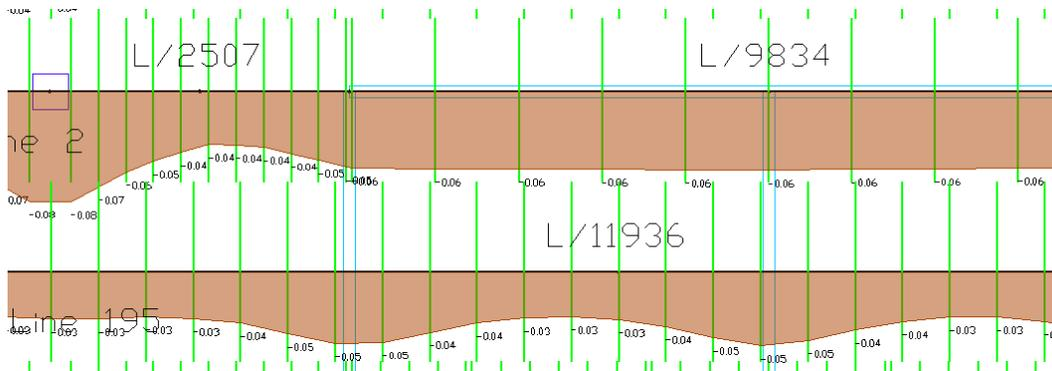

FIGURE 6.8-8 DEFLECTION RESULTS ALONG SUPPORT LINE
- From **Floor Design | Strip Results/Visibility | Display Graphically**, turn on the support lines in either direction, the program will report the deflection ratio (X/L) for each span as shown in **Figure 6.8-8**. Note also that the deflection value for each design section is shown. The same display of results can be produced for any action (i.e. moment, shear, axial) when the result to be displayed is set for an **Action** and the **Display Graphically** tool is active.